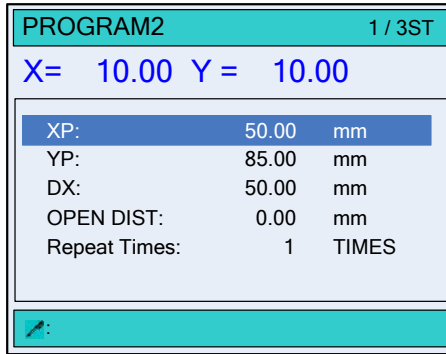

Figure 3-5 The STEP page
Step 4 After finishing the setting of the **PROGRAM** page, press  to enter **STEP** page, as shown in Figure 3-5.